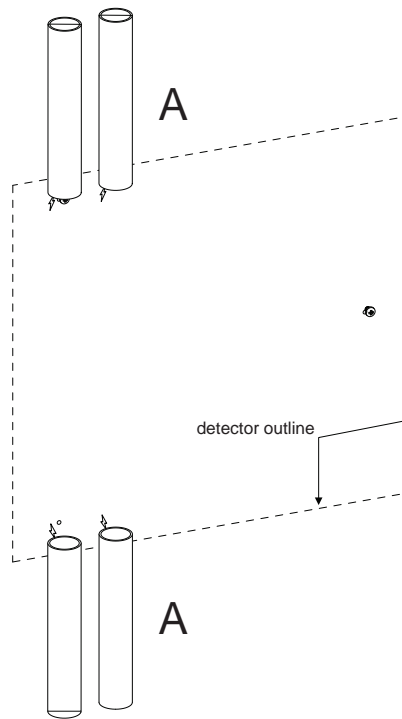

Figure 4-12: Cut the electrical conduit
4. Position the electrical conduits (A) on the marked center lines (Figure 4-12).